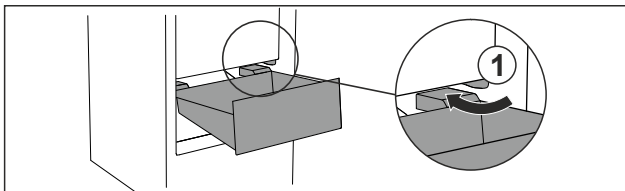

Fig. 65
- ▶ Guide drawer in at an angle around the stoppers Fig. 65 (1).